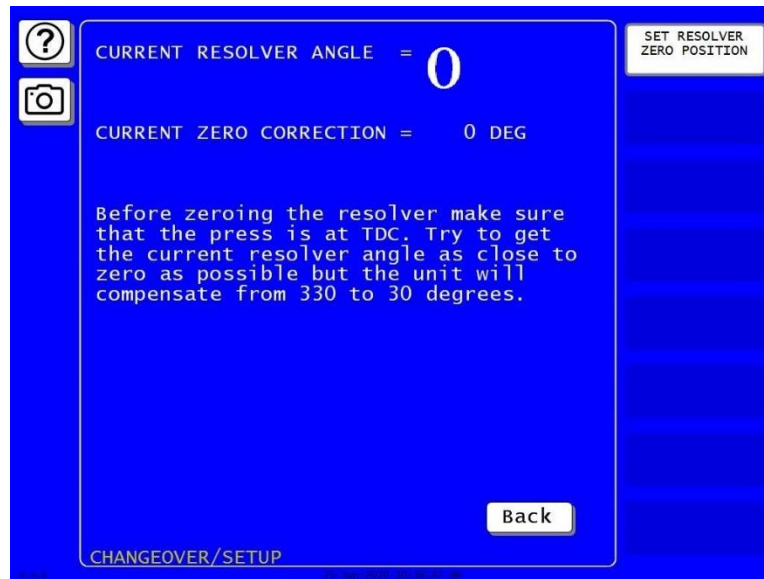

Figure 2-20. "Resolver Zero" Screen
1. On the SmartPAC PRO Main Initialization Menu select RESOLVER ZERO. The screen shown in Figure 2-20 displays.